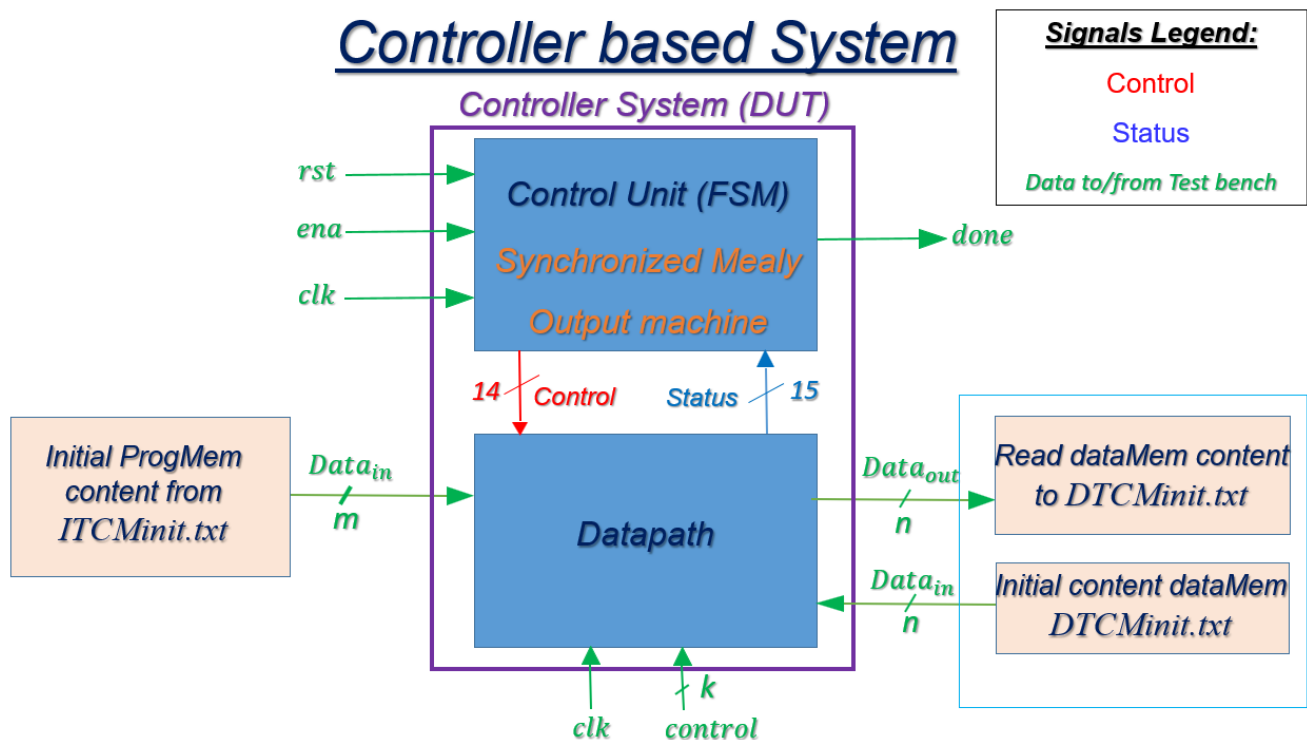

Figure 1: Overall DUT structure
- As depicted in Figure 1, we use a file-based simulation to simulate the system DUT.